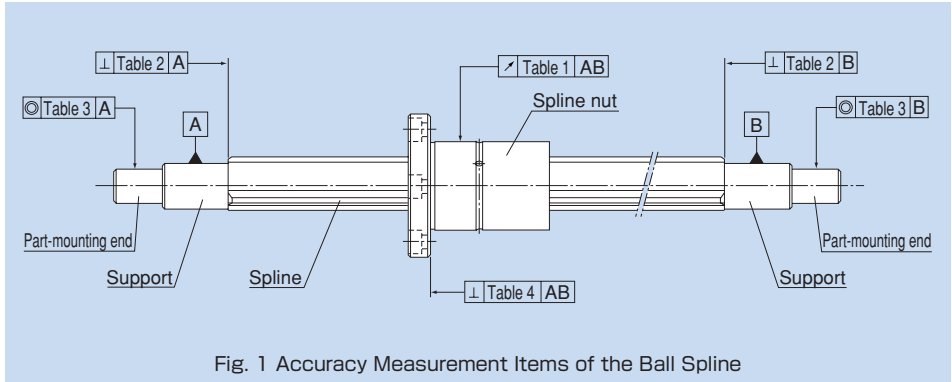

Fig. 1 Accuracy Measurement Items of the Ball Spline
The accuracy of the Ball Spline is classified into three grades: normal grade (no symbol), high grade (H) and precision grade (P), according to the run-out of spline nut circumference in relation to the support of the spline shaft. Fig. 1 shows measurement items.